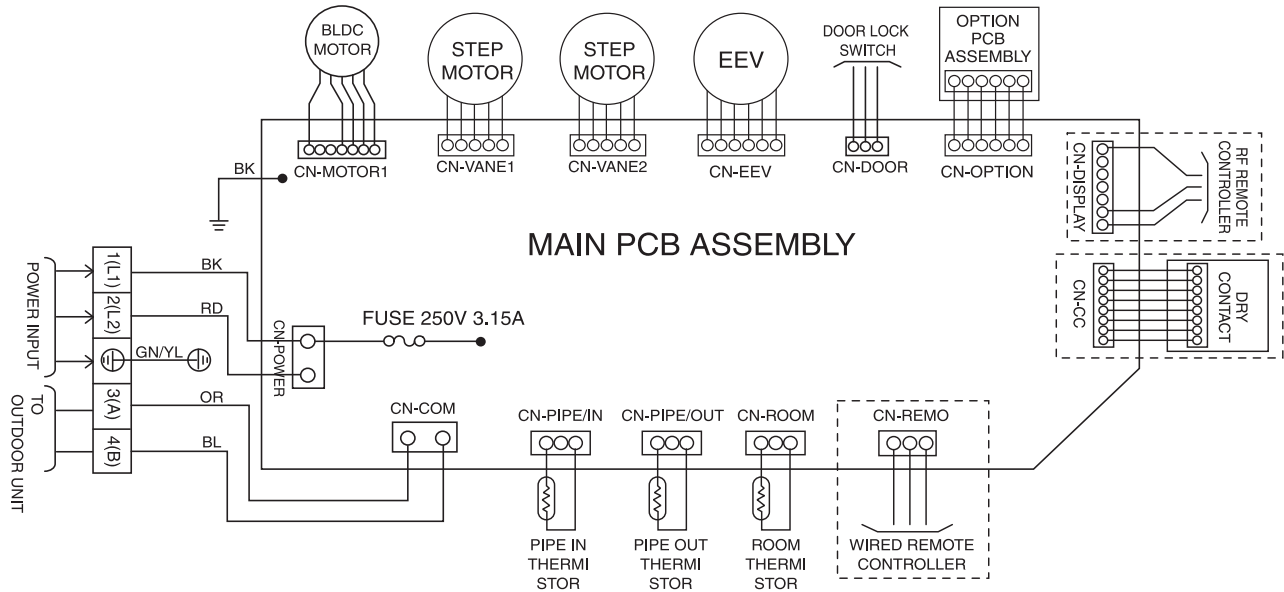
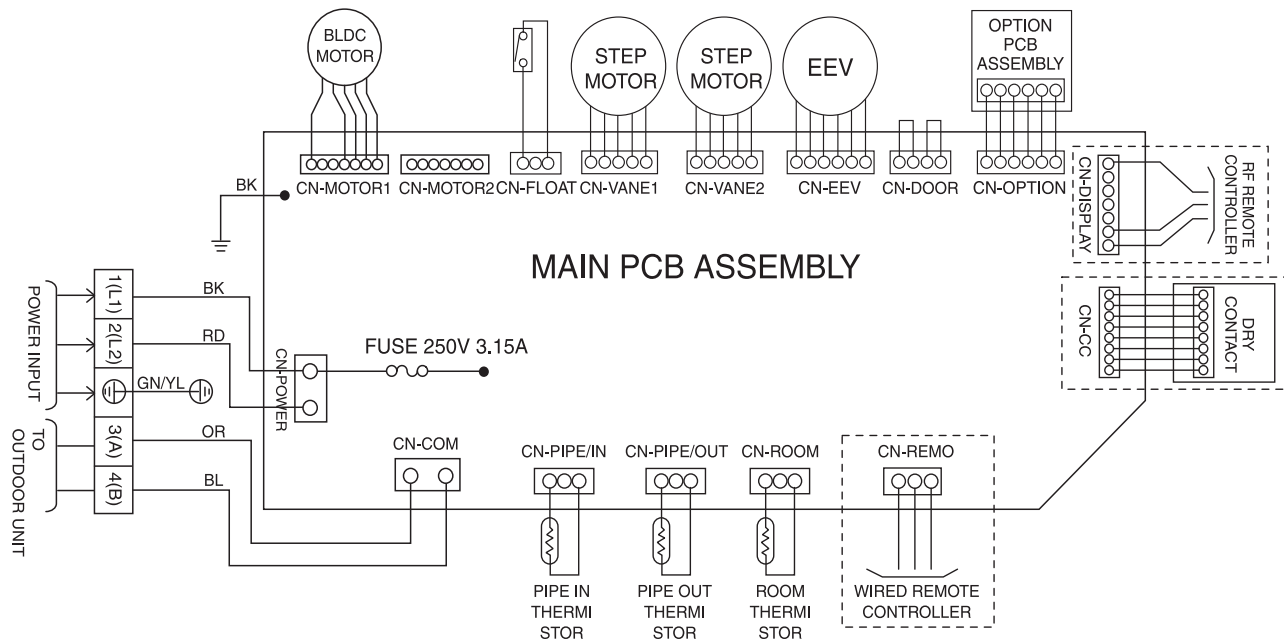

Figure 24: Convertible IDU Control Circuit Board
Figure 25: Ceiling Suspended IDU Control Circuit Board
10. Plug the male plug-end of the zone controller communications cable into the CN-REMO socket on the Indoor Unit PC Board (See Figure 24 and Figure 25).
2. Find the CN-CC socket on the Indoor Unit Control Board. Refer to Figure 24 and Figure 25.